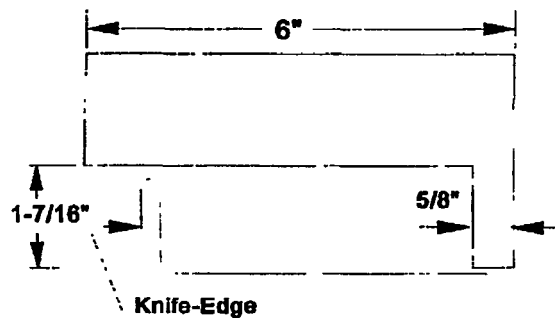

Figure 600-2.15. Gauge for Measuring
- c. Inspect the entire knife-edge for proper height. A block of aluminum cut to the specifications shown in figure 600-2.15 is an effective gauge. If the knife-edge is more than 1/8 inch too high or too short, it must be repaired in accordance with step d.